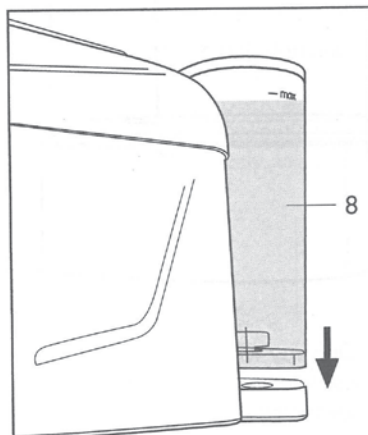

Fig. 3
- Close the cover and insert the tank (8) against the machine body so that the tab engages and the base of the tank rests correctly on the water valve. (Fig.3)